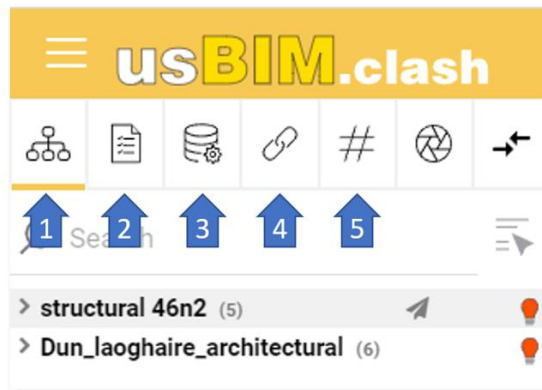

Figure 5. Filter Tab
- Structure (arrow 1 Figure 5), allows you to select objects using the different classes of an IFC model.
- Properties (arrow 2 Figure 5), allows you to filter the objects of an IFC model using the properties associated with them.
- usBIM.data (arrow 3 Figure 5), you can filter objects using the information entered in usBIM.data
- Documents (arrow 4 Figure 5), you can filter the objects of an IFC model using the document links associated with them.
- #TagBIM (arrow 5 Figure 5), you can filter objects by using the tags associated with the objects themselves